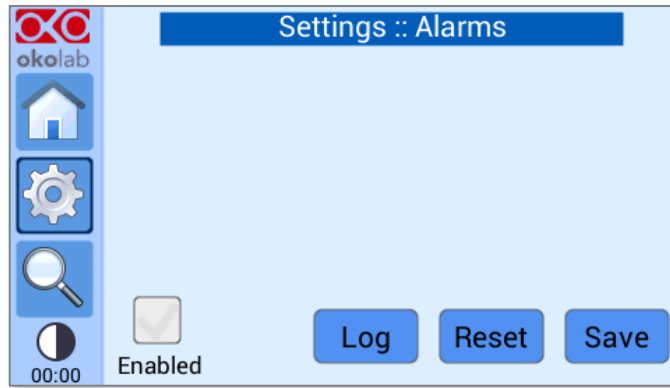

Figure 60. Alarms page when the alarms are disabled
- 6 To disable the visual and acoustical alarms, remove the flag from the tab labeled *Enabled*. In this case the Alarms page becomes as shown in Figure 60